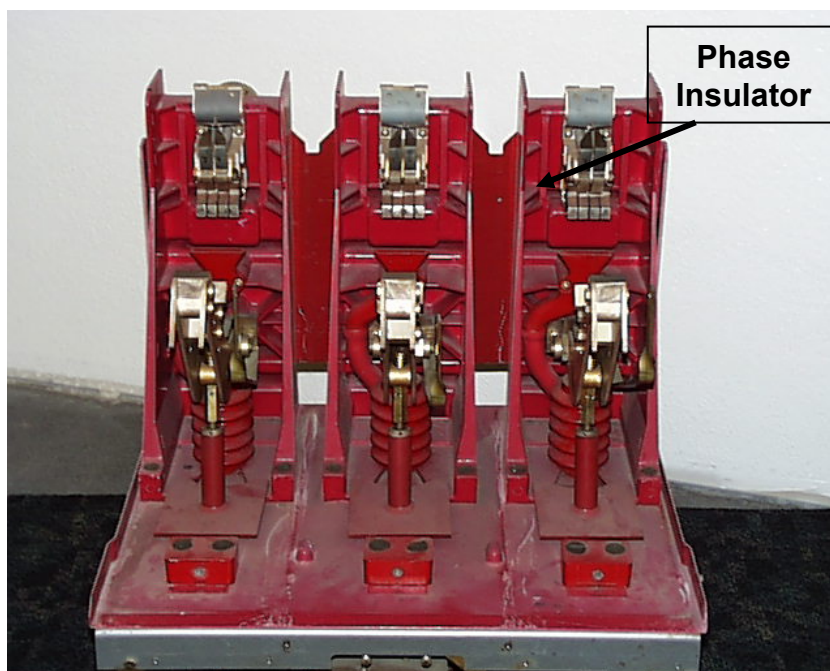
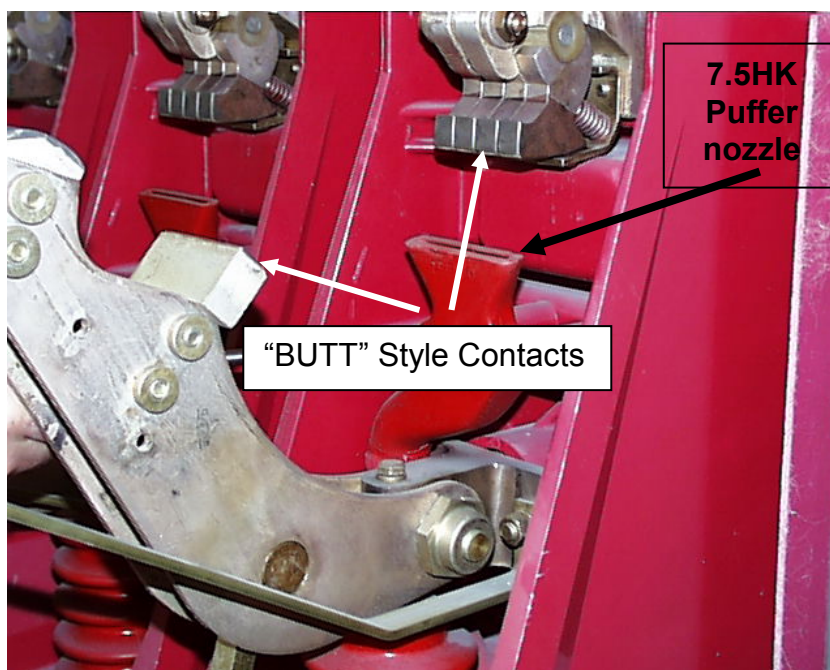
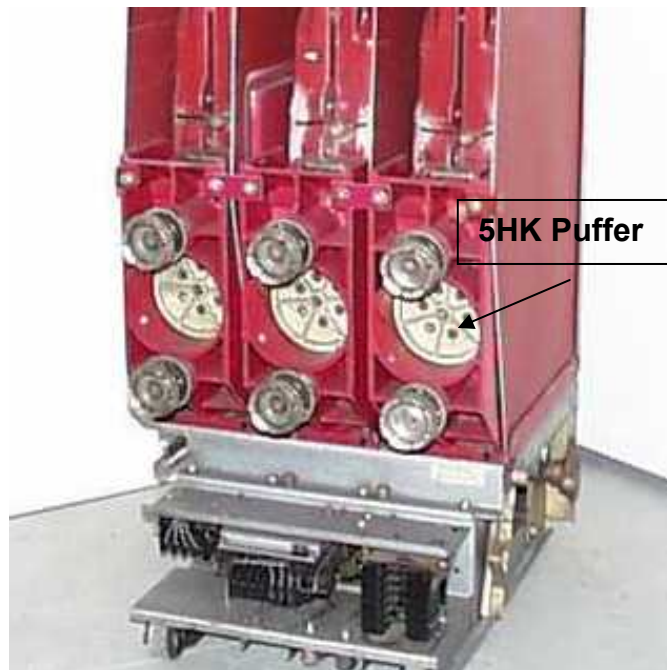

Figure 8-1 HK contact assemblies
Figure 8-2 HK main contacts
Figure 8-3 5 HK puffer
8.3.2 The contact assemblies (Figure 8-1) are the main current carrying part of the breaker. The phase insulators (1 per phase) hold the contact bus and contacts. The HK contacts are a "BUTT" type design in that they "MAKE" flatly against each other (Figure 8-2).
- Each phase has a plastic phase insulator, which holds the upper and lower contact bus. The bus is bolted to the insulator and can be removed (see Figure 8-1).
- Puffer nozzle- on a 5HK breaker the puffer is part of the moving contact assembly with an individual puffer for each phase (Figure 8-3). The 7.5 HK and above has a single puffer assembly which directs air into individual nozzles located under the stationary contacts (Figure 8-2)